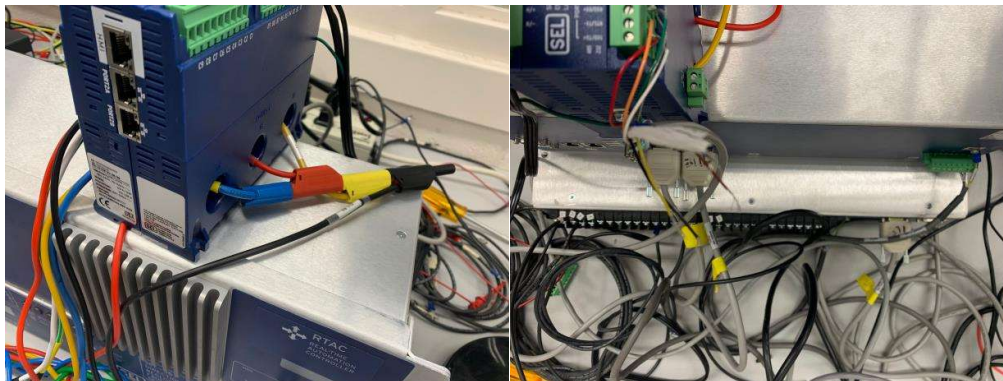

Figure 2: Connection between KoCoS ARTES and SEL 849 current inputs
- C. Use current transducer cables to connect the KoCoS current outputs through the SEL 849's CT in a wye configuration as shown below (Figure 2).